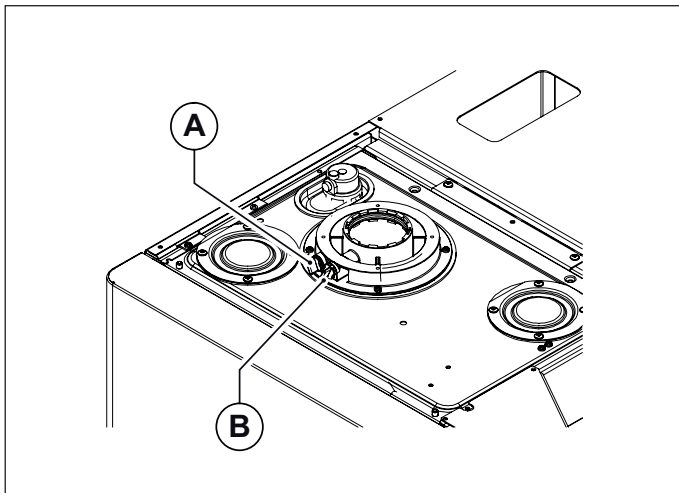
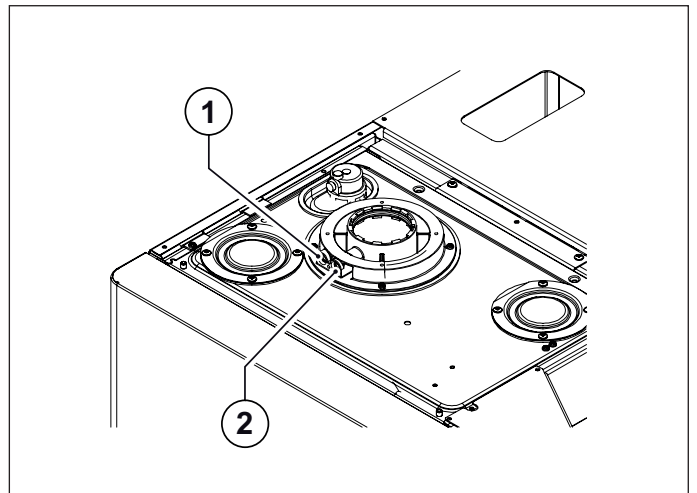

Fig. 13 Plugs position
Fig. 14 Hole position
The boiler is equipped with a tower allowing for air intake/flue gas venting pipe connection (see Fig. 13 Plugs position and Fig. 14 Hole position).
The tower is designed with two pre-arranged openings directly accessing air and flue gas ducts (see Fig. 13 Plugs position).
Remove caps **A** and **B** from the pre-arranged openings on the tower, before starting combustion checking procedure (see Fig. 13 Plugs position).
- assess combustion air from opening **1** (see Fig. 14 Hole position).
- assess flue gas temperature and CO2 from opening **2** (see Fig. 14 Hole position).